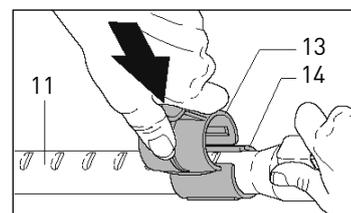

Figure 2
Step 2: Lay the telescopic tube (11) with the adapter attached (14) on a stable surface (e.g. a table) and press the brush clip (13) over the adapter (figure 2). The outer ridges of the brush clip adapter hold the brush clip (13) in place.